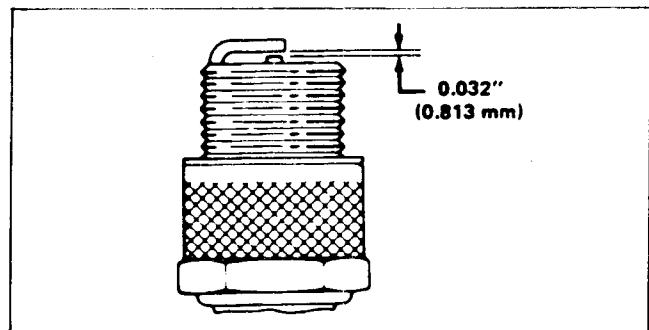

Figure 16
3. Set air gap at 0.813 mm (0.032") as shown in Figure 16. Install a correctly gapped spark plug and gasket seal. Tighten the plug firmly.